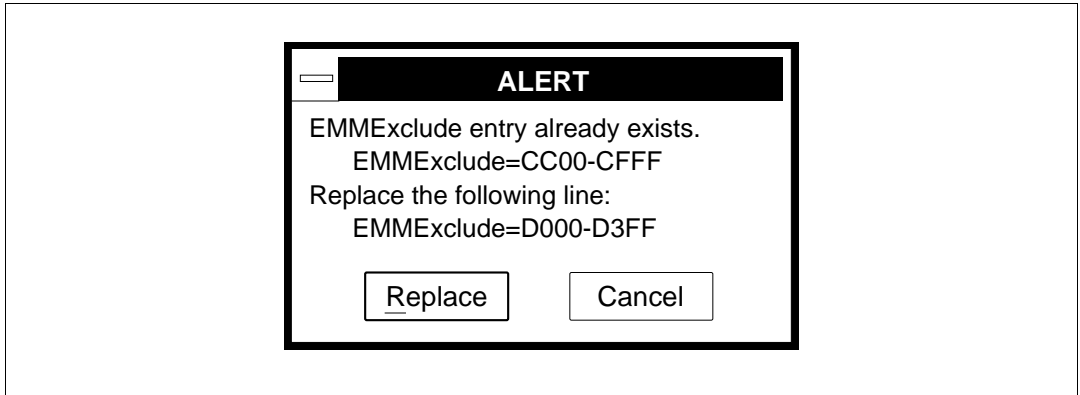

Figure 2-9 Dialog Box for Confirmation of Memory Address Specification Range Rewrite (INSTALL)
- (13) To add to the Windows system file SYSTEM.INI the memory address range for the IBM-PC interface board, click the <Change> button. The file before adding the memory address is saved as SYSTEM.GUI. To terminate the installer without changing the SYSTEM.INI file, click the <Cancel> button. In this case, change the SYSTEM.INI using the procedure described in section 2.5, Modifying System Files.
- (14) To add the memory address range for the IBM PC interface board, EMMExclude parameter of the SYSTEM.INI file is used. If the memory address range has already been specified, a rewrite confirmation message is displayed as shown in figure 2-9. Select <Replace> or <Cancel> according to the operating personal computer.